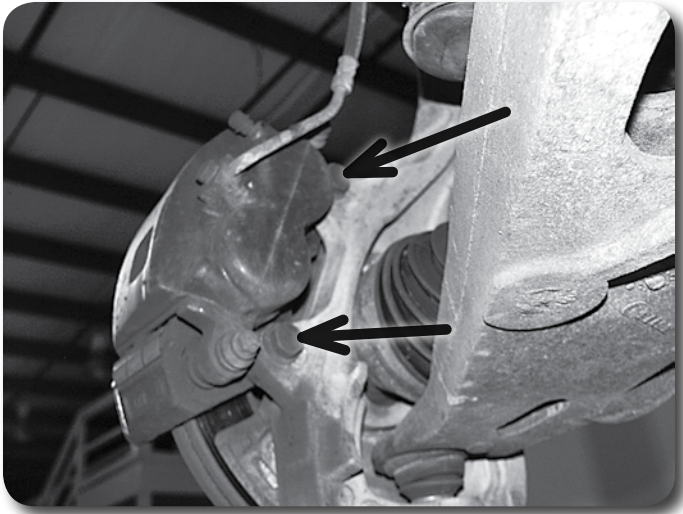

Figure 4
13. Remove the brake caliper anchor bracket bolts **Figure 4** and pull the caliper free from the steering knuckle and rotor. Hang the caliper securely out of the way. Save caliper mounting hardware. Remove the brake rotor from the hub.